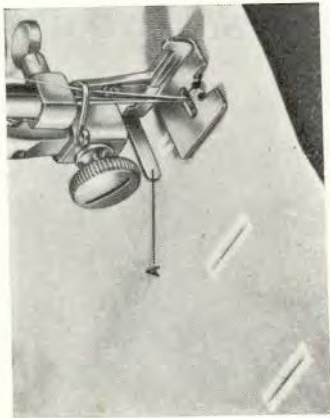

Fig. 26.
5. Adjust the gauge on the buttonhole-foot (A, Fig. 26) to the length required for the buttonhole. The size of the buttonhole will correspond to the distance from the needle to the gauge. (Make buttonhole about  $\frac{3}{16}$  to  $\frac{1}{4}$  in. longer than size of button.)
2. Place one end of the buttonhole marking under the needle, with the rest facing towards you. Lower the presser foot and start sewing. Stop when the first stitch reaches the gauge (A, Fig. 26).
7. While the needle is still raised, press in the stop (Fig. 26 a) and turn the control to the right. The stitch width will then be automatically stopped at  $3\frac{1}{2}$  (2 mm). Then sew the second line of stitches, stopping the machine when the needle is in its lefthand position. The buttonhole, almost finished, now looks like (d).